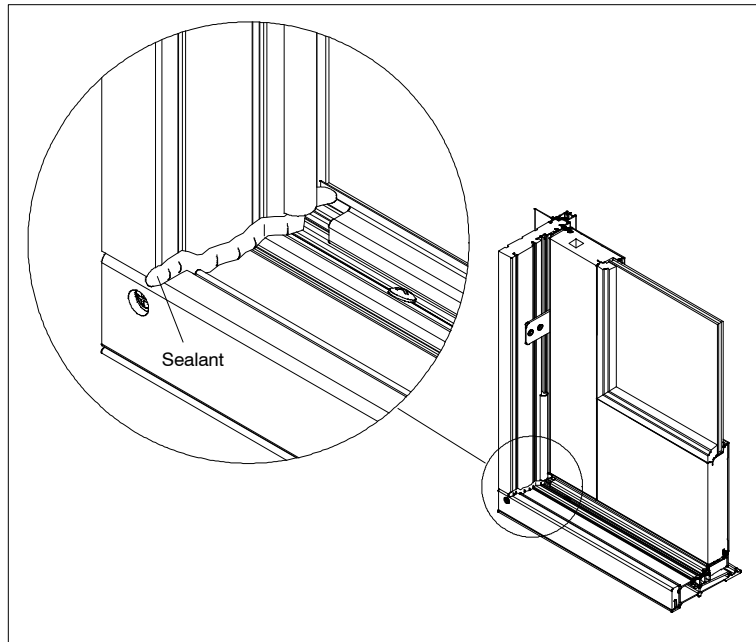

Figure 1
1. Install the 1 3/4" panel per the appropriate NOA and prior to installing the side jamb stops, place a 1/4" bead of sealant at the sill/side jamb joint at both side jambs as shown in figure 1.